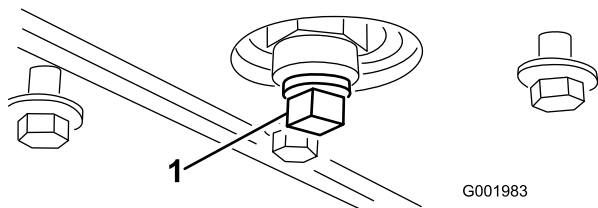

Figure 49
5. Remove the drain plug (Figure 49).